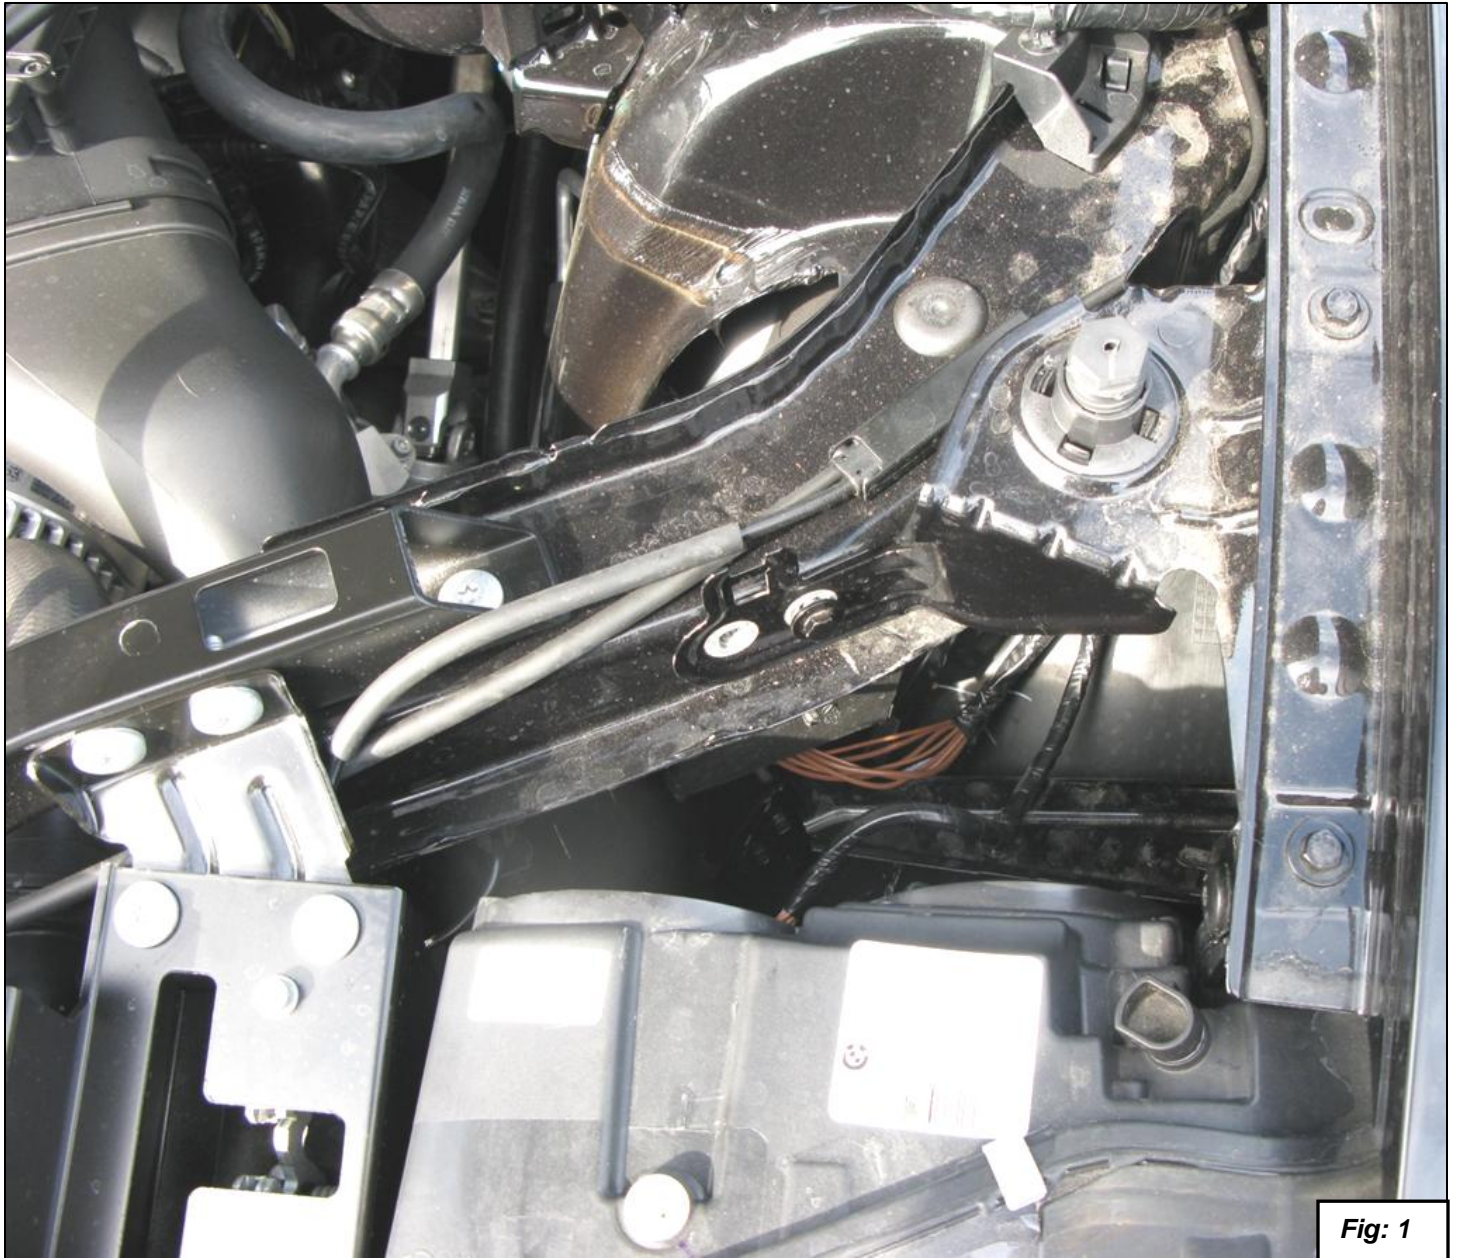

Fig: 1
2. Remove the two bolts that hold the fender bracket to the crossover strut. See figure 1.